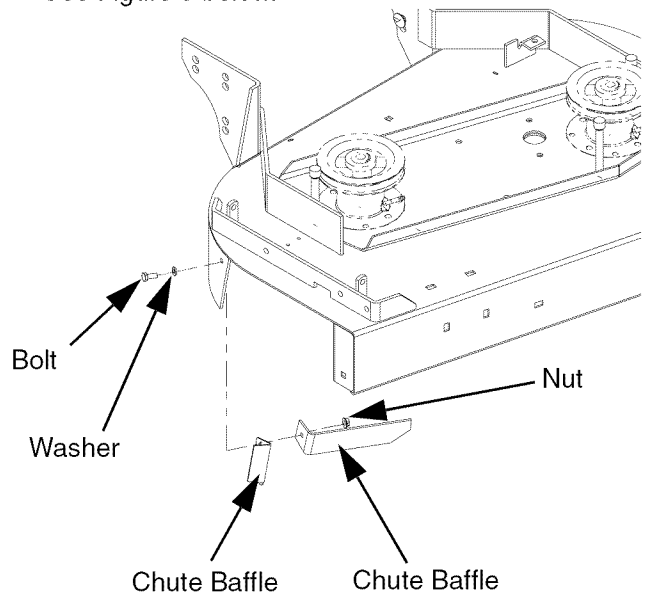

Figure 9
- Attach Chute Baffle [S] and chute baffle previously removed in step 8 to the inside of the mower deck using (1) 5/16-18 x 1.00 bolt [T], (1) 5/16 Flat Washer, and (1) 5/16-18 Nylock nut. See Figure 9 below.